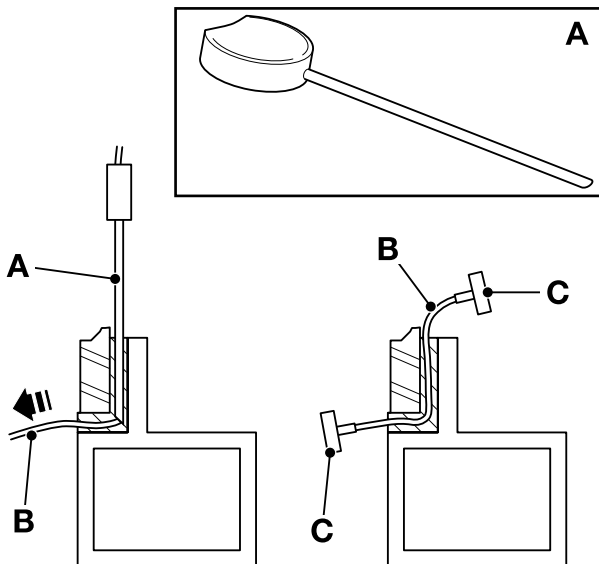

Fig 5. Braided Cutting Wire and Handles
- b Braided Cutting Wire and Handles.** ⇒ Fig 5. (□ B-12). This method uses a 3-core wire, a wire starter tube and two handles.